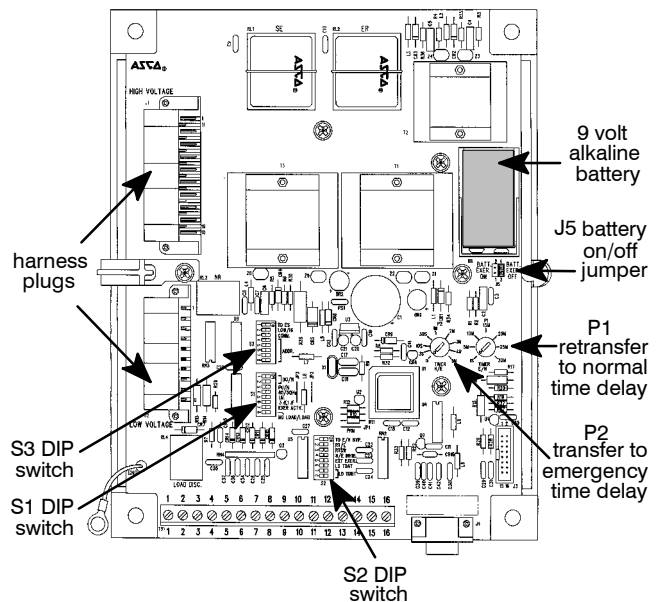
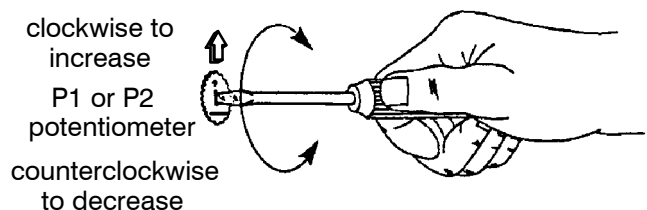
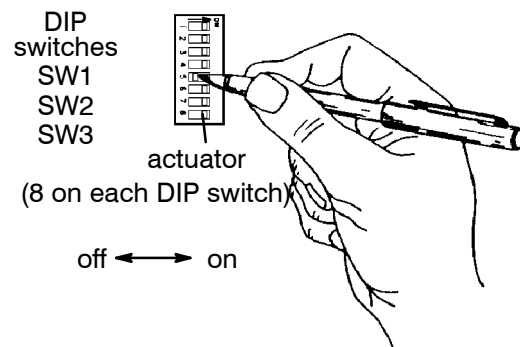

Figure 4-2. Location of potentiometers.
Figure 4-3. Changing time delay potentiometers.
Figure 4-4. Setting DIP switch actuators.
4. Locate the appropriate adjustment potentiometer or DIP switch for the setting that you want to change. Refer to Table 4-1 and Table 4-2 on page 4-1 and Figure 4-2, Figure 4-3, Figure 4-4 on page 4-2.
5. Use a small screwdriver to turn the potentiometer clockwise to increase the time delay or counterclockwise to decrease it. See Figure 4-3.
6. Use a ball-point pen (or similar pointed tool) to slide the switch actuators left or right so they match the illustration next to the setting (left = off, right = on). Recheck the setting. See Figure 4-4.
The engine exerciser included in ASCO Series 300 Automatic Transfer Switches provides a once a week 20-minute exercise period. It occurs immediately when the SET ENGINE EXERCISER push button is pressed (and held for at least 5 seconds), and then at the same time weekly thereafter. A 9 volt alkaline battery (*Duracell*® MN1604, *Eveready*® 522, or *Panasonic*® 6AM6) is furnished and installed in the controller to maintain the setting. The battery jumper block must be shifted to the ON position. See Figure 4-2 on page 4-2.